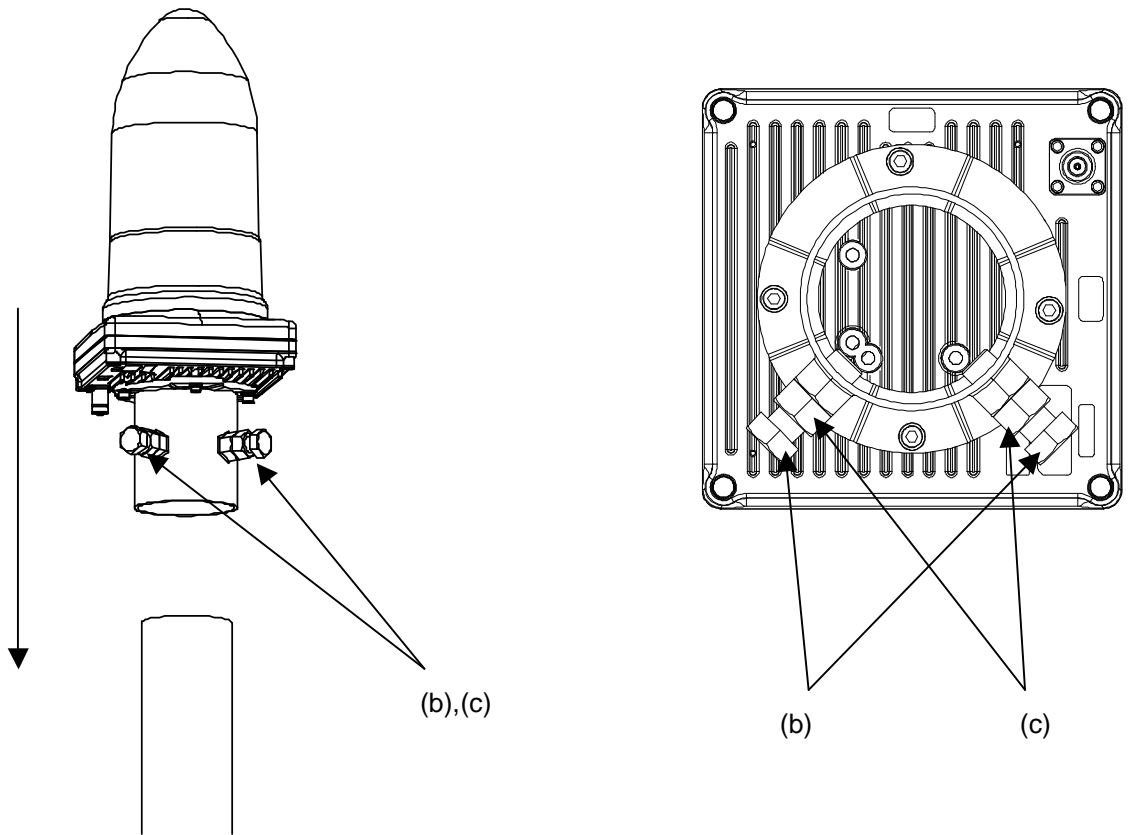

Figure 5-2 Installing the AP-RFU (Omni Antenna)
- (2) As shown in Figure 5-2, loosen the bolts and nuts (b) and (c) for the AP mounting bracket and install the bracket on the pole. Next, tighten the bolts (b) and tighten the nuts (c) while making sure that the bolts (b) stay in place.